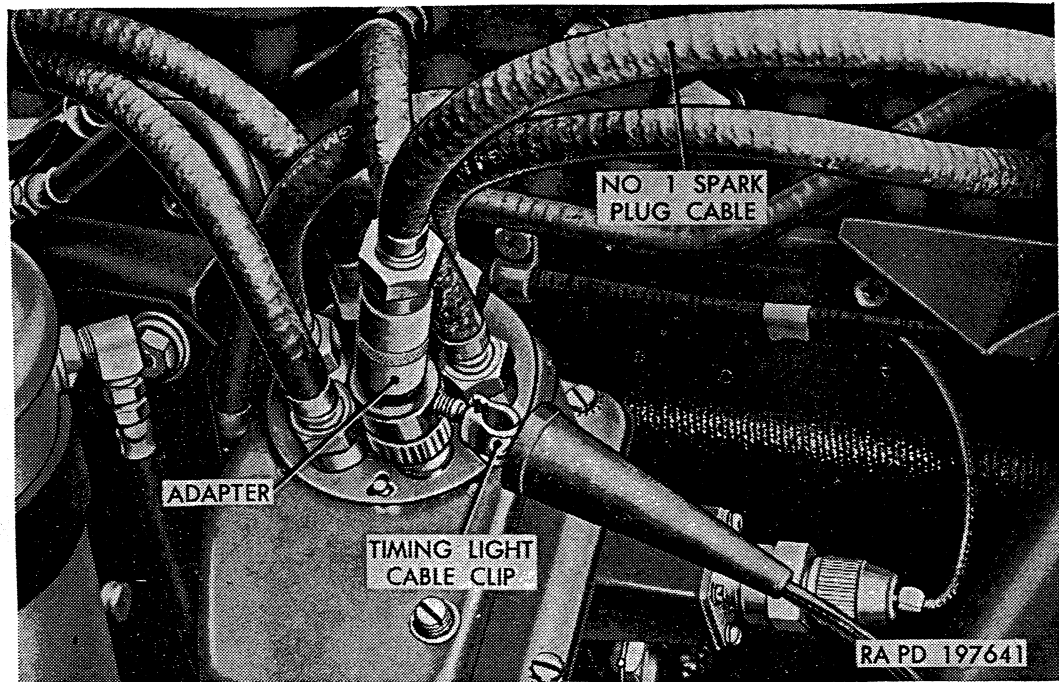

Figure 115. Timing light adapter installed.
*a. General.* Timing the ignition system comprises initial timing; setting the distributor mechanism to cause opening of points at correct firing intervals, and manual advance adjustment; and retarding or advancing the point opening to compensate for various grades of fuel which may be used. These timing factors require checking and adjusting at engine tuneup periods, or when performance of engine necessitates such action. Ignition timing mark is a notch on crankshaft pulley as shown in figure 114. Timing pointer is attached to engine timing gear cover. Due to the sealed design of the ignition system, an adapter is required for connecting timing light (fig. 115).
- (4) Install distributor cover, making sure gasket is in place and in good condition. Tighten cover attaching screws.
- (5) Disconnect No. 1 spark plug cable from distributor cover, using crowfoot wrench C7950895 (fig. 76). Thread adapter onto distributor cover; then connect No. 1 spark plug cable to adapter (fig. 115).
- (6) Connect one terminal of timing light to adapter (fig. 115) and connect other terminal to a convenient ground.